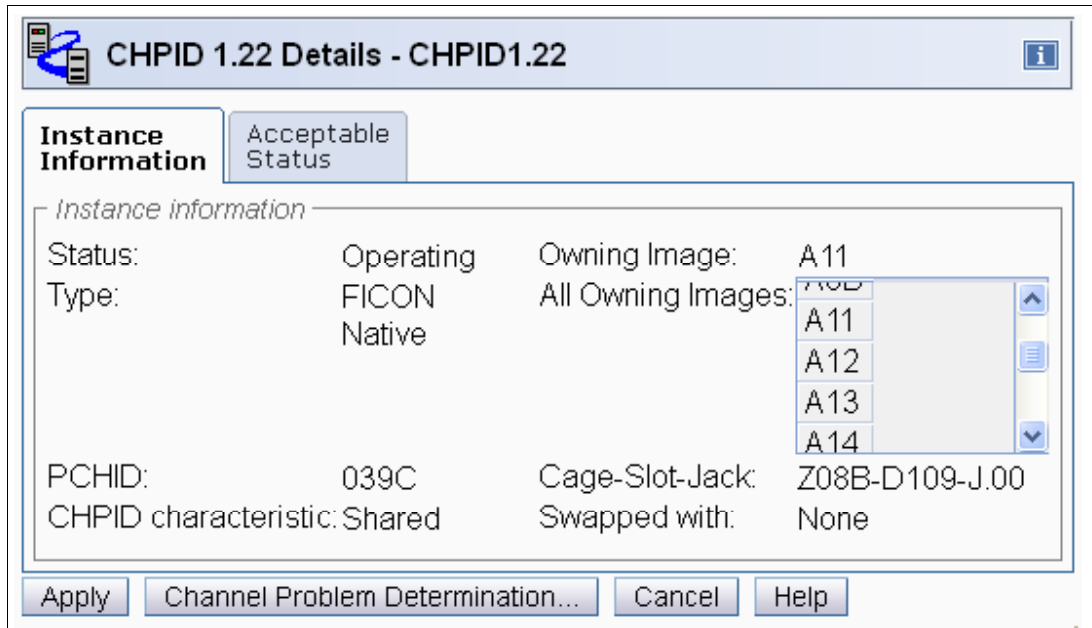

Figure 6-48 HMC CHPID details for 1.22
2. The CHPID Details panel provides information that is similar to the PCHID details panel. To display the CHPID details, select the channel list for an LPAR from the Support Element. Refer to Figure 6-48 on page 193.